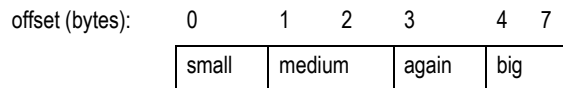

Figure 11.2 Example of "pack" PRAGMA Layout
- ◆ *Endianness: has no effect on the picture shown by Figure 11.2. Endianness determines how an integer value is related to the values of its constituent bytes (when they are considered separately); it does not affect the relative byte locations used for storing those values. Endianness does affect C bitfields, which are discussed below.*
This has the effect of causing the compiler to omit all padding and produce the layout shown in Figure 11.2:
Big-endians typically draw their pictures organized around words (32 bits in a MIPS system), like Figure 11.2. What's more, big-endians see words as a sort of number, so they put the highest bit number (most significant) on the left, like our familiar Arabic numbers. And a big endian sees memory extending up and down the page from the picture in Figure 11.4.